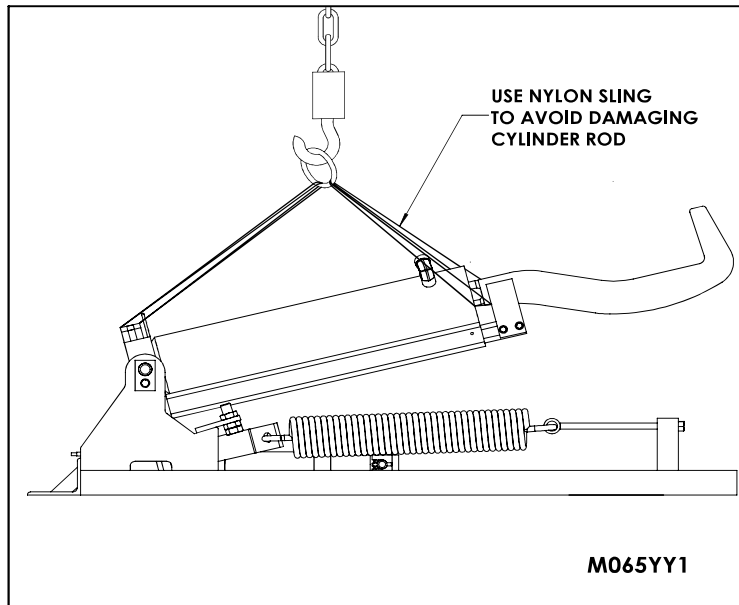

Figure 3: Slings Unit
6. ___ Hoist the Ultrahook by slinging through the lifting point at the cylinder pivot and the hook(See Figure 3: Slinging Unit on page 8.)